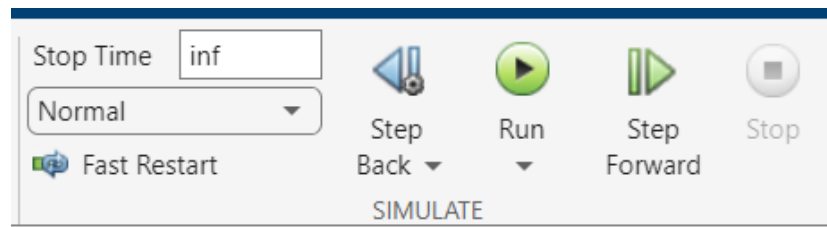

Figure 3. Simulation tab | Run button to start virtual Qube
8. Run the QUARC controller using the Run button on the Simulation tab as shown in figure 3.
20. In the same section near the Run button as shown in figure 3, set the Stop time to 5 sec.